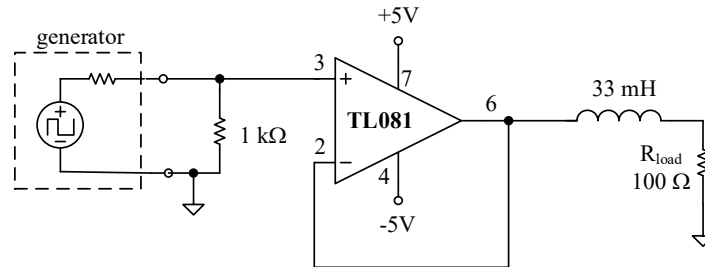

Figure 1 Switching LR filter emulation
- a. Build the circuit in Figure 1. The lab instructor can loan you the op amp if you do not have one of your own. Its purpose is to isolate the circuit from the $50\ \Omega$ internal output impedance of the generator. The op amp can provide much more current to the load. The circuit also lets us look at the performance of an LR low pass filter for a switching power supply or Class D audio amplifier without having to build the switches.